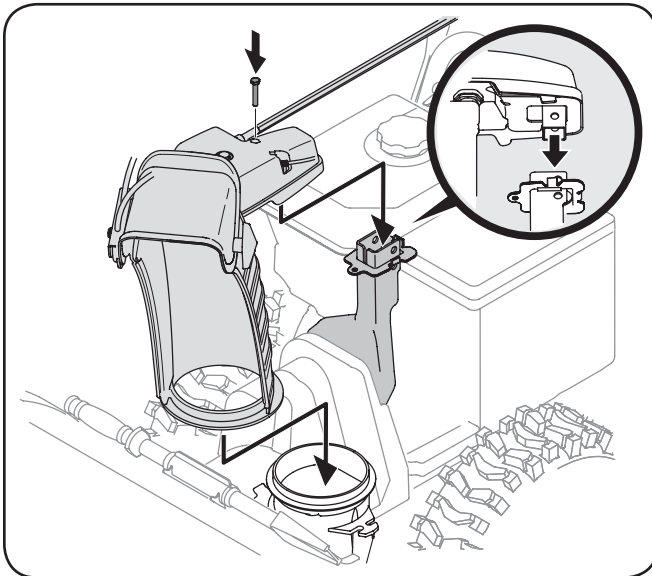

Figure 3-5
3. Place chute onto chute base and ensure chute control rod is positioned under the handle panel. Install hex bolt previously removed but do not secure with wing nut at this time. See Figure 3-5.